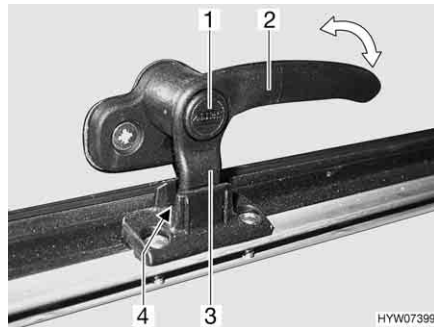
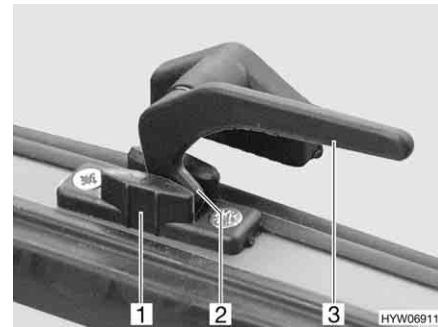

Fig. 70 Catch lever with safety knob in "continuous ventilation" position
Fig. 71 Catch lever in "continuous ventilation" position
- "Continuous ventilation" (Fig. 70 and Fig. 71)
- Press and hold the security button (Fig. 70,1), if present.
- Turn the catch lever (Fig. 70,2 or Fig. 71,3) a quarter turn towards the centre of the window.
- Return the catch lever to its initial position. Move the locking catch (Fig. 70,3 or Fig. 71,2) on the catch lever into the recess of the window catch (Fig. 70,4 or Fig. 71,1).